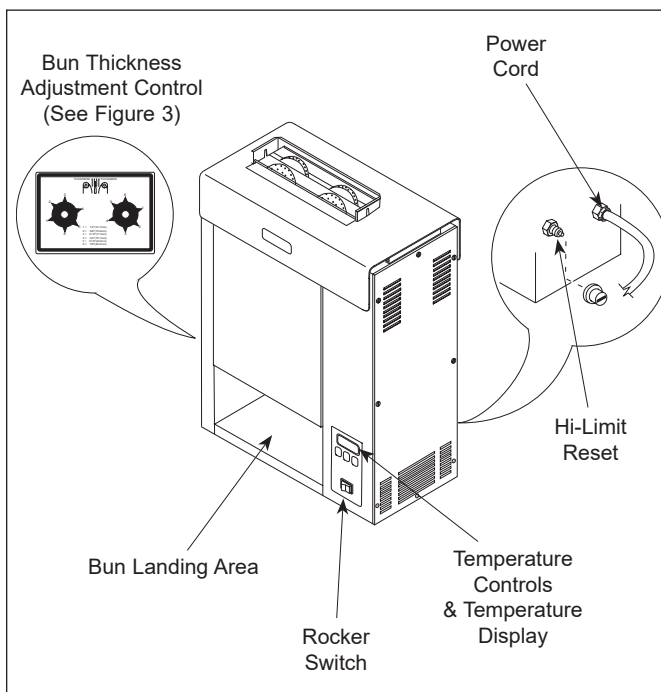

Figure 2. VCT-2000 Toaster
2. Turn the Rocker Switch on. (Figure 2). Allow the toaster to warm-up for 30 minutes before proceeding.
NOTE: The temperature display (Figure 2) will flash "LO" until the toaster reaches its preset operating temperature. When the toaster approaches the preset temperature of 600°F (315°C), "USE" appears in the temperature display and the unit is ready to toast buns. If "USE" does not appear in the window after warm-up period of approximately 30 minutes, contact your Authorized Service Agency.
3. Drop Crowns and Heels into the slot (Figure 2). **Cut sides of heel and crown must face each other.**
4. Toasted buns will drop into the bun landing area (Figure 2).
A Hi-Limit Control turns off electrical power to the heater and control circuits if the platen overheats. To reset the control, allow sufficient time (10-15 minutes) for the unit to cool, then locate the Reset Button at the rear of the unit. Remove the black protective cap, press the Reset Button, and reinstall the protective cap (Figure 2).